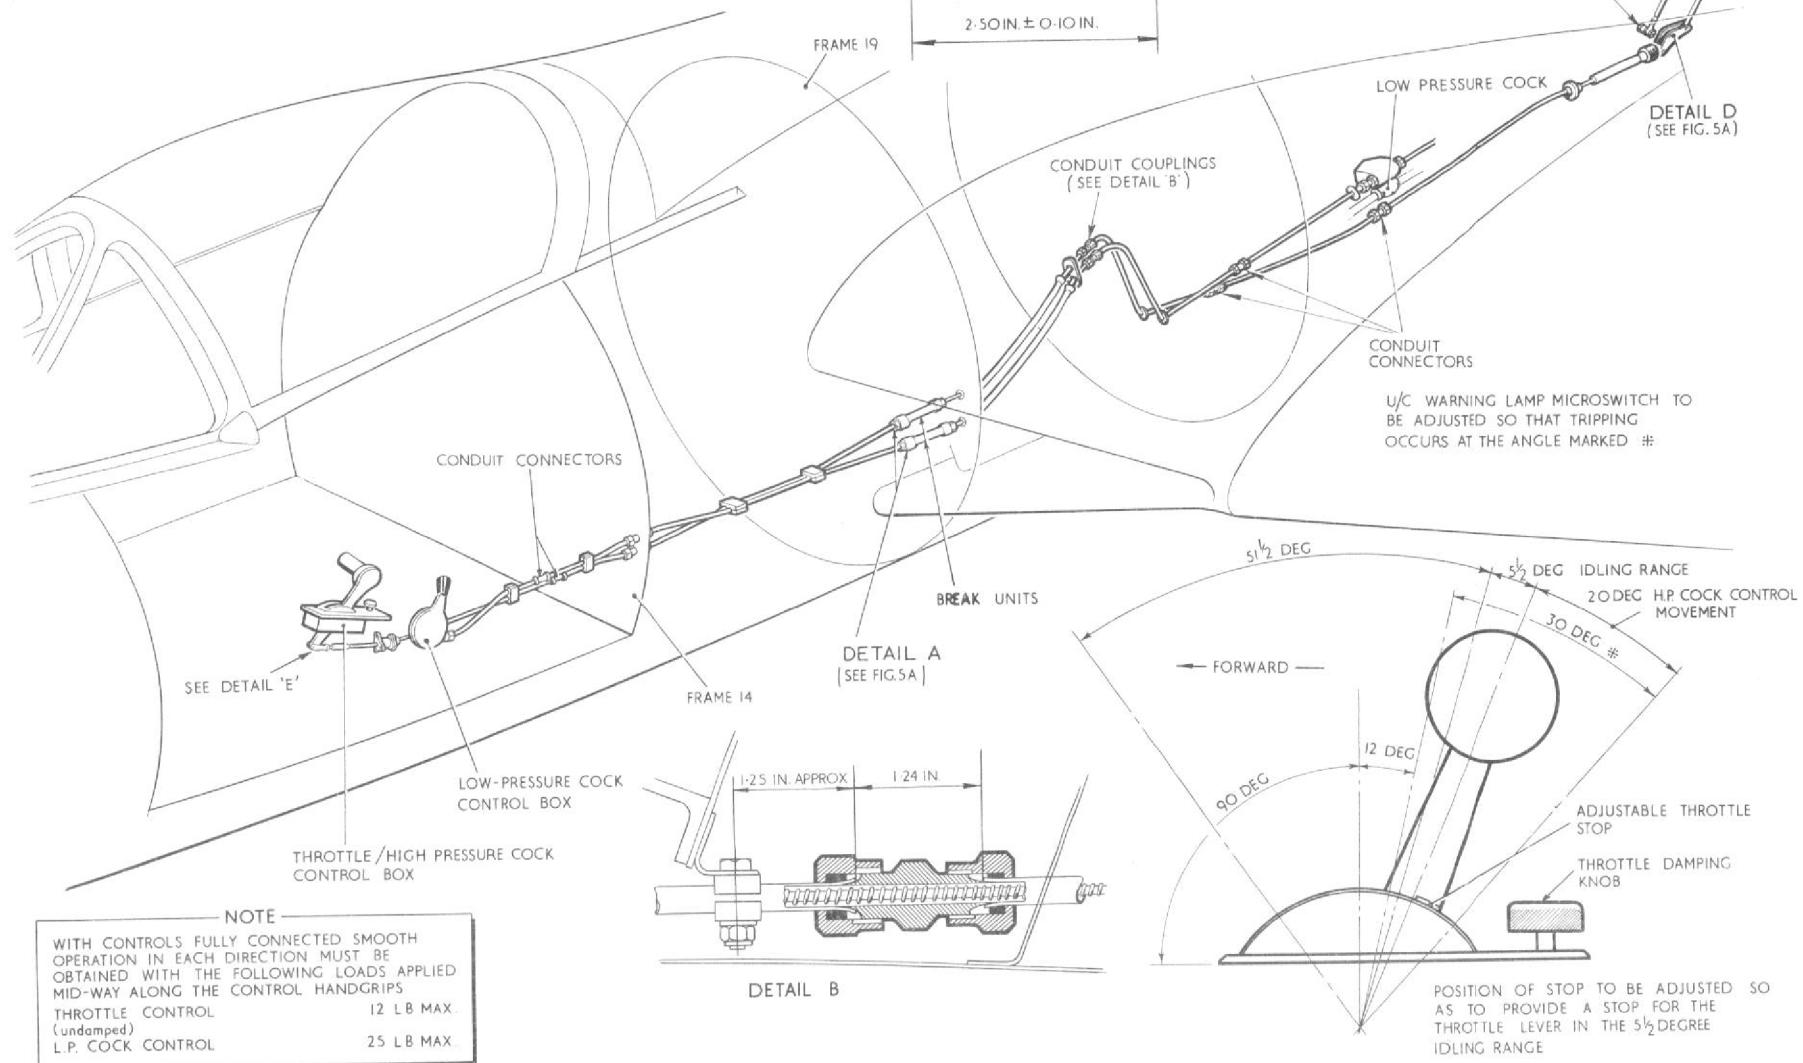

Fig 5 Engine Controls (1)
#### Engine controls (fig. 5 and 5A)
12. The combined throttle and high-pressure cock and the low-pressure cock should be checked to ensure that they come up against their stops before the system is strained. In no circumstances should the throttle and high-pressure cock stops on the engine be interfered with in any way, as these have been set in the correct position by the engine manufacturers. Control settings are given in fig. 5 and 5A.
15. Oil specifications and capacities for the engine, accessories gearbox and turret drive arm are listed in the Leading Particulars at the front of this Volume. The units should be checked for oil level before flight and topped up as necessary (Sect. 2, Chap. 2). Lubrication of the engine controls is detailed in fig. 5. The gearbox universal drive shaft couplings should be lubricated as described in para. 25.